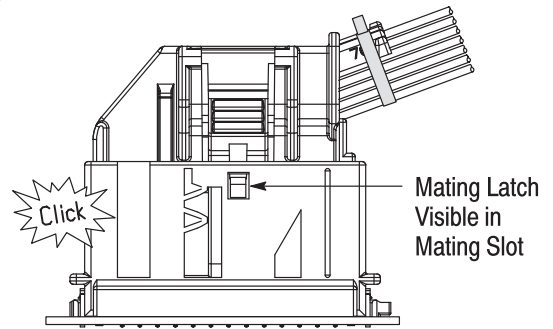

Figure 7
1. Orient the connector so that the keying and polarization features are aligned with the keying and polarization features of the interface. See Figure 7, Detail A.
2. Push the connector straight into the interface until the mating latch of the connector drops into the mating slot of the interface. The mating latch should return to its non-deflected position and should be visible in mating slot. There should be an audible “click.” See Figure 7, Detail B.